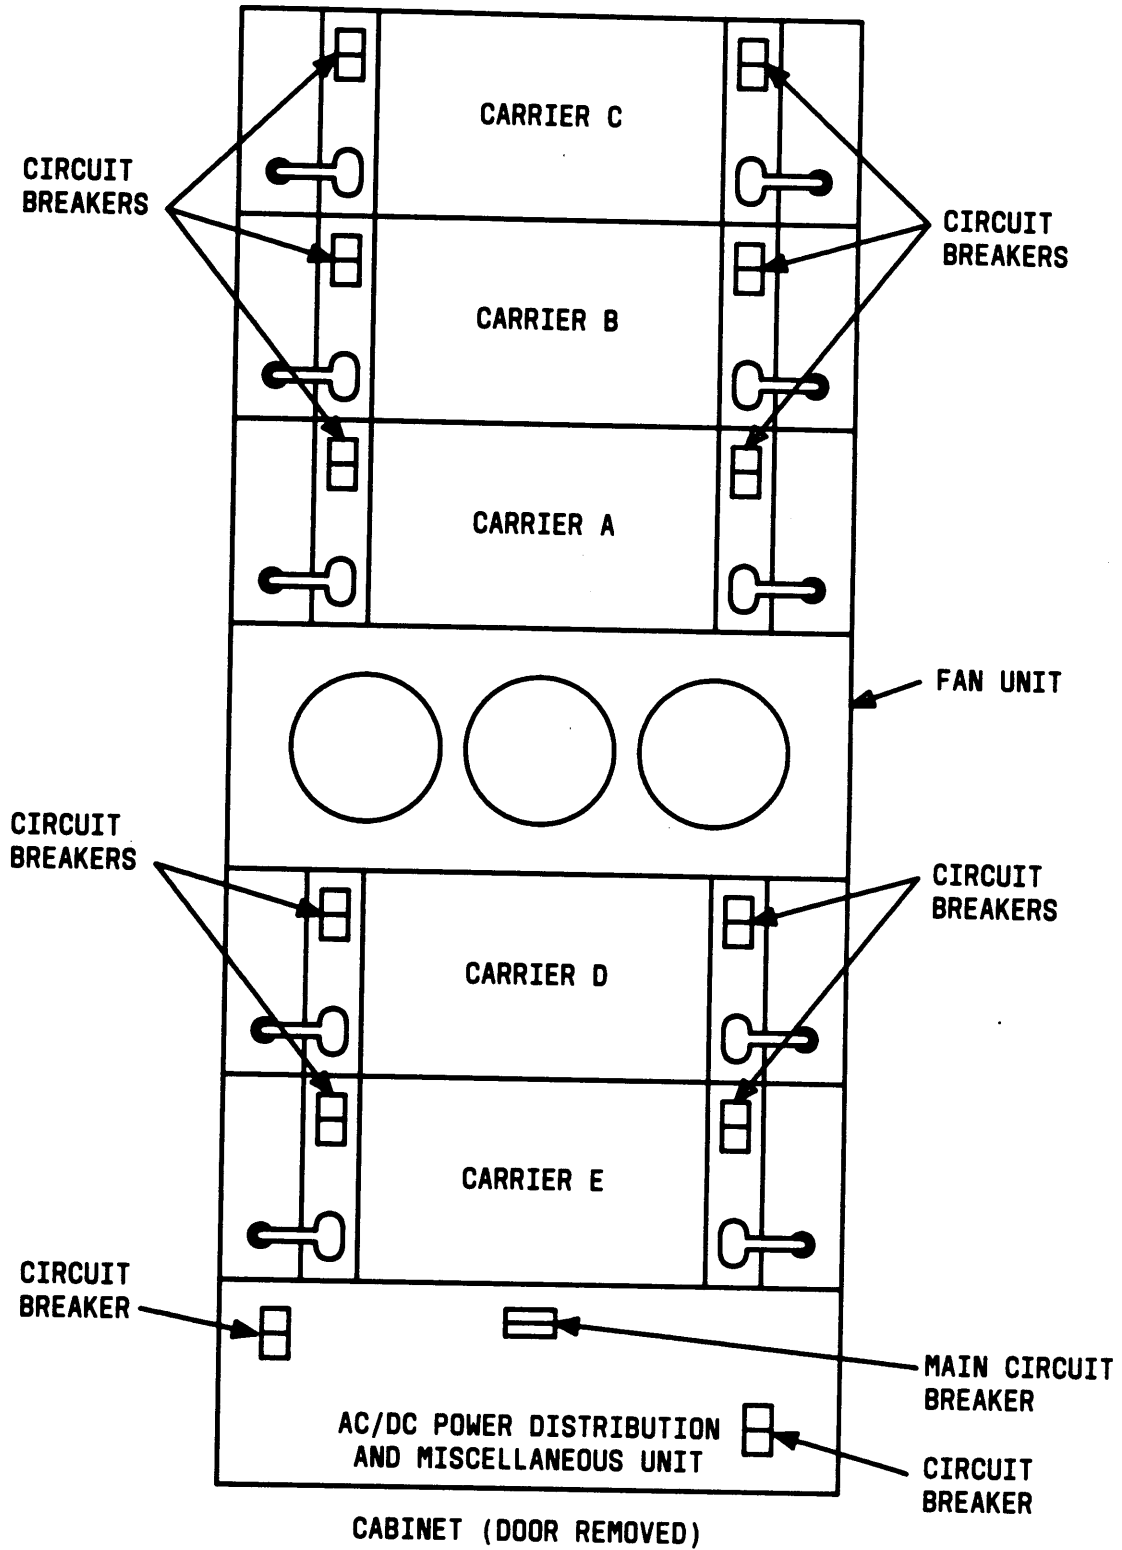

Figure 23. Switch Cabinet Circuit Breaker Location
3. On System 75, verify that main circuit breaker is in OFF position (see Figure 23).
4. On System 75, operate *all* other circuit breakers (see Note) to ON position (see Figure 23).